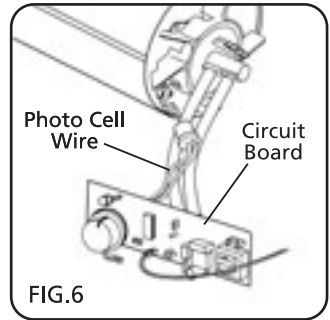

FIG.6
10.5 CLEAN PHOTOCELL - FIGS. 6 - 9